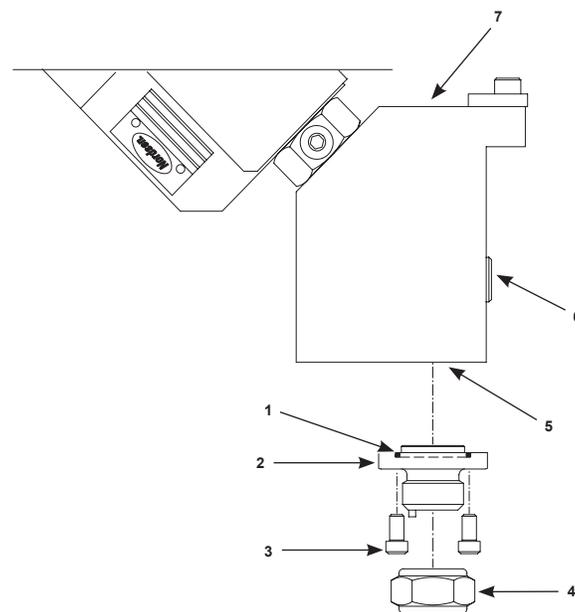

Figure 6 Installing Optional Adapter Kit
2. See Figure 6. Install the material inlet fitting in the material inlet port (7) of the gun body.
See Figure 6. Each CE20 gun has a pressure transducer port (6). Various pressure transducers are available for use with these guns. If necessary, contact a Nordson representative for assistance in selecting and installing the appropriate pressure transducer.
1. See Figure 6. Lubricate the O-ring (1) with O-ring lubricant. Make sure it is properly seated in the nozzle adapter body (2).
2. Insert the nozzle adapter body into the body and seat at the material outlet port (5).
3. Install the screws (3) into the body and seat. Tighten the screws to 7.8 N•m (69 in.-lb).
4. Thread the nozzle nut (4) over the nozzle and onto the end of the nozzle adapter body. Tighten the nut to 40.7 N•m (30 ft-lb).